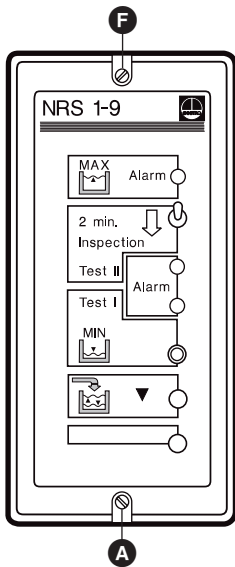

Fig. 6
Apply mains voltage. The green LED **G** lights up, **fig. 6**
2. When switching on the mains voltage the green LED ⑥ should light permanently, **fig. 6**.
5. Decrease level in boiler until the level falls below min. level. After the response delay the two red LEDs ③ must light up.
6. A low-level alarm can be simulated by pushing the button "TEST I" ④ whilst the electrode tip is submerged. Push the button until the response delay has expired. Both red LEDs ③ must light up.
7. To check the function of the checking circuitry of the switching controller proceed as follows: Operate switch "TEST II/INSPECTION" ② in the direction of the arrow with the electrode tip submerged. After max. two minutes the two red LEDs ③ should signal low-level alarm. The button "TEST I" ④ must **not** be operated during this test **nor** must the level fall below the low level mark.
3. Fill boiler with feedwater until the level exceeds the required max. level. After the response delay of 2 sec. the red LED ① must light up, **fig. 6**.
4. Decrease level in the boiler until the level falls below high level, the red LED ① must extinguish.
3. The green Led ⑤ must light up, **fig. 6**.